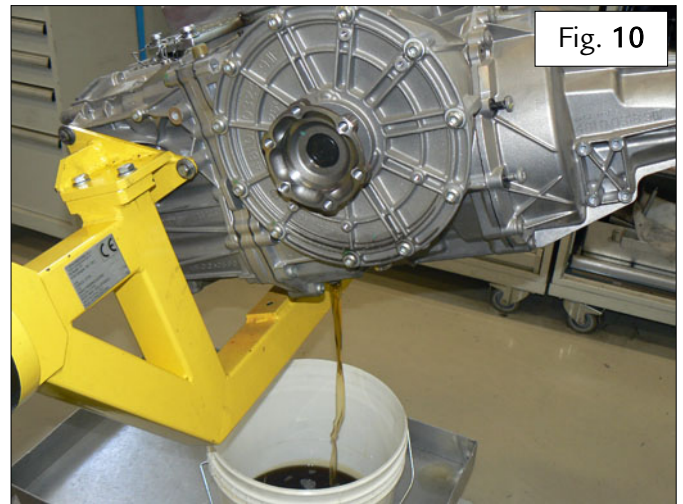

Fig. 10
- Rotate the gearbox counter-clockwise to empty all the ATF clutch fluid – Fig. 10.
- Using the tool **AV 8609** (extractor and cylindrical ring for LH side), remove the Corteco seal ring (6) from its seat – Fig. 10.